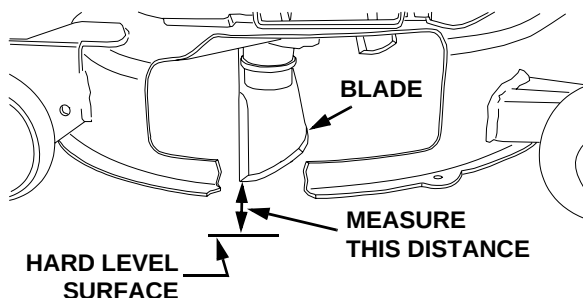

Figure 5-6
4. Referring to Figure 5-6, measure and record the distance from the hard, level surface to the outermost cutting edge of the right blade. Repeat this step for the left blade. If the two blade heights are not within 1/16 inch, note whether the right hand blade is lower or higher than the left blade, then proceed to steps 5, 6 and 7. If the two blade heights are within 1/16 inch, proceed to **FRONT TO BACK LEVELING ADJUSTMENT**.